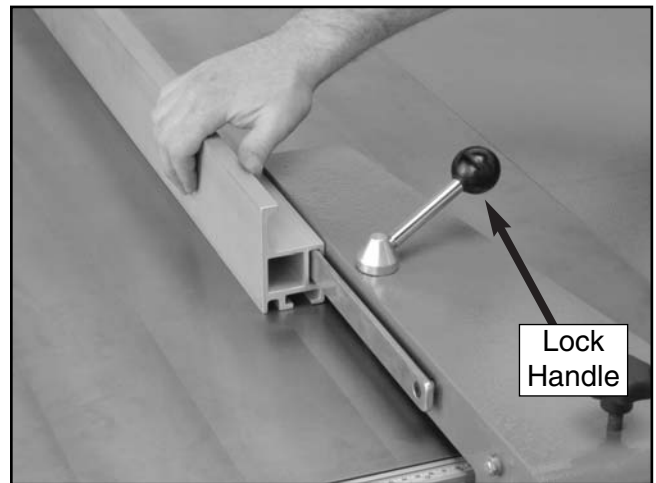

Figure 44. Installing aluminum fence to clamping assembly in upward position.
6. Slide one end of the aluminum fence piece over the mounting track on the side of the fence clamping assembly. Note—*The aluminum fence piece should slide smoothly back and forth. The handle on the top of the clamping assembly rotates to lock the aluminum fence piece into position (**Figure 44**).*